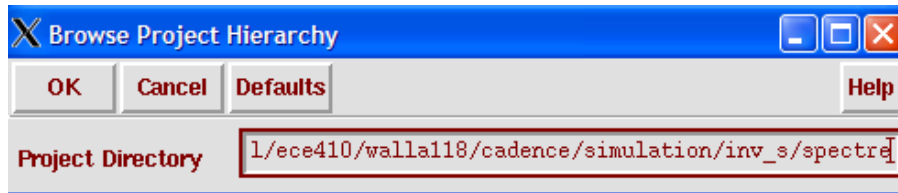

Figure 2: The Browse Project Hierarchy window, left to default
5. In the **Waveform Window**, select **Tools → Results Browser...** A Browse Project Hierarchy window will appear (see **Figure 2**). Click **OK** to accept the default path (or enter the path of previously-saved results). The **Results Browser** should now appear.
8. Assuming you are doing transient analysis, click **tran-tran**. See **Figure 2**.